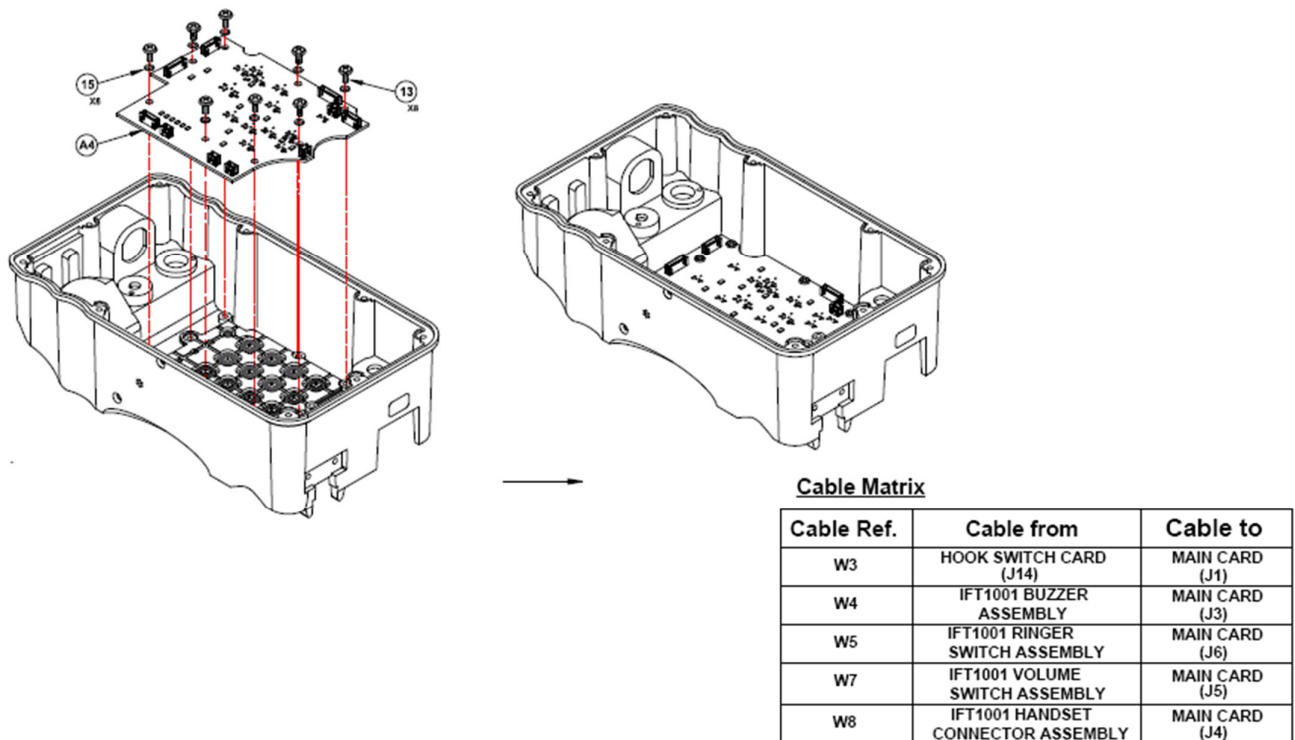

Figure 15 : Reassembly of Main PCA
- a) Mount the Main PCA on the inner side of the Top assembly unit with the connector pointed upward direction as shown in Figure 15.